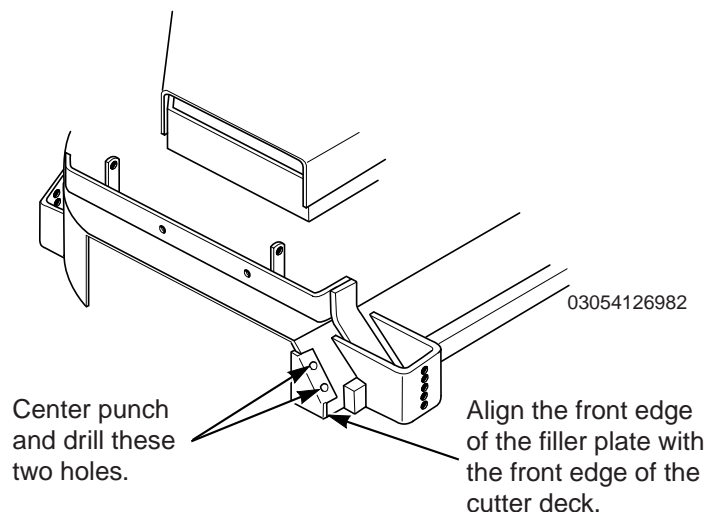
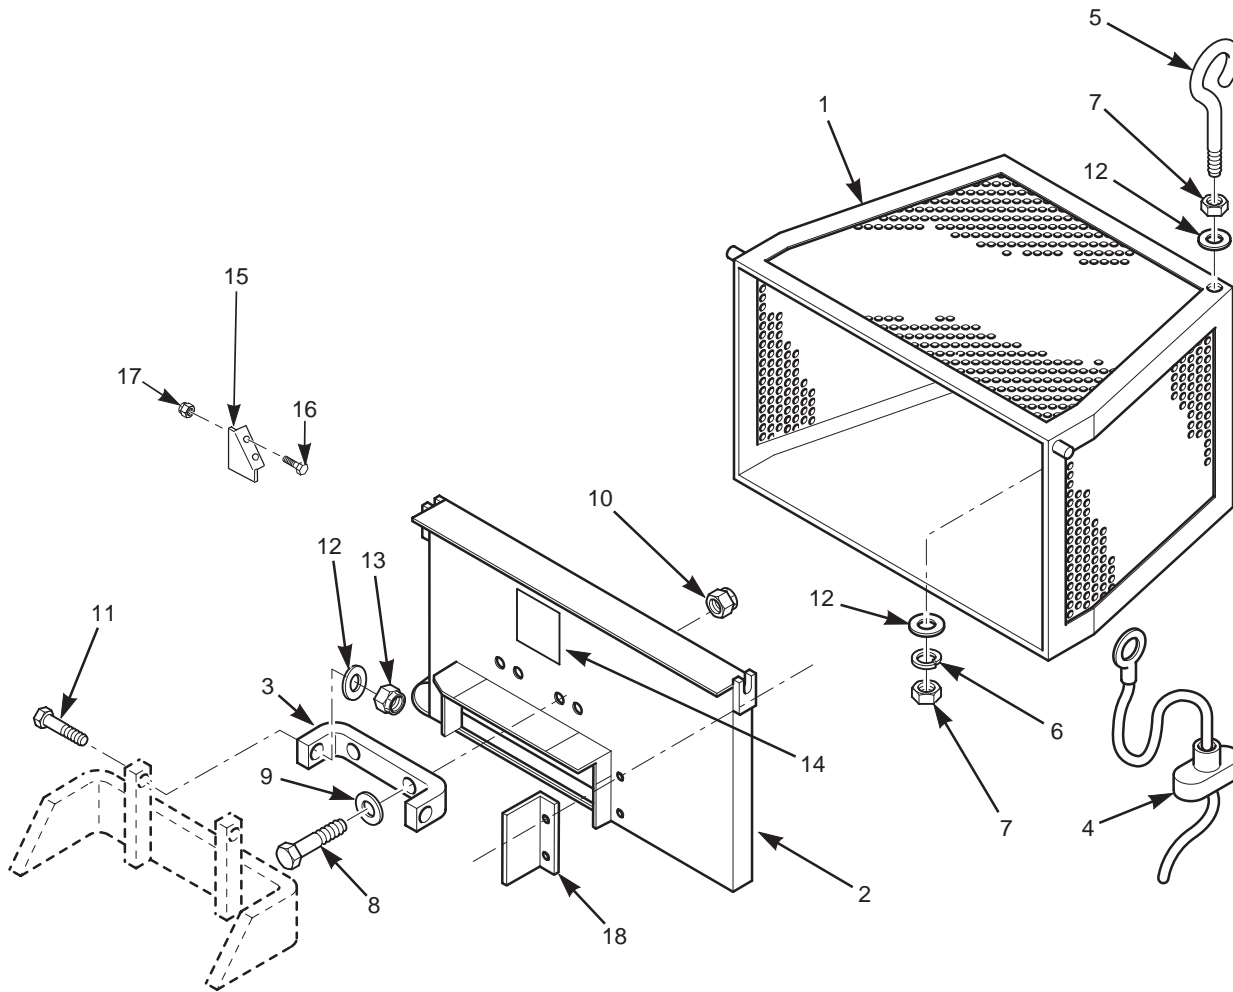

Figure 1. Filler Plate Installation for Advantage Cutter Decks
Figure 3
3. If you are installing the catcher to a machine with an Advantage cutter deck, with a serial number of 8619999 or lower, you must also install the filler plate (item 15, Figure 3, page 5) to the cutter deck. If the machine serial number is 8910001 or higher, proceed to step 6.
4. Hold the filler plate (item 15, Figure 3) to the front of the cutter deck as shown in Figure 1. Center punch the two hole locations in the cutter deck. Drill the holes at the marked locations using a 1/8" drill bit, then finish drilling using a 9/32" drill bit.
5. Install the deck filler plate to the **inside** front of the Advantage deck using (2) 1/4-20 x 3/4" bolts and (2) 1/4-20 elastic stop nuts.
6. Install the mounting bracket (item # 3, Figure 3) to the cover weldment (item # 2, Figure 3) and secure with the hardware provided. Do not tighten the hardware.
*There are two (2) mounting brackets included with this grass catcher.
7. Install the grass catcher filler plate (item # 18, Figure 3) as shown. Secure using the hardware provided. Tighten the hardware.
8. Install the grass catcher cover assembly to the discharge mounting area. The grass catcher cover assembly must be installed as shown in Figure 3. Secure the grass catcher cover assembly to the discharge chute mounting area using the hardware provided.